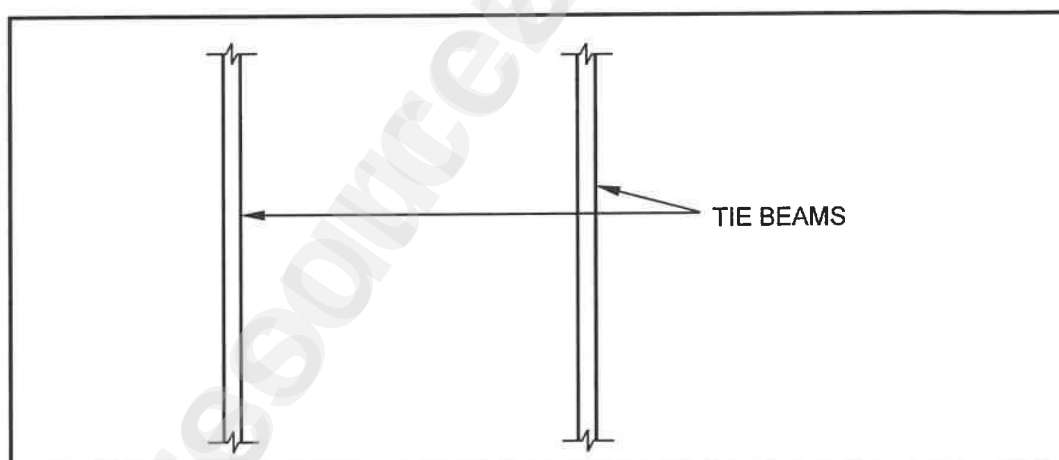

FIGURE 4.3
- 4.3 FIGURE 4.3 below shows an incomplete view of the constructional detail of the framework for a trap door.